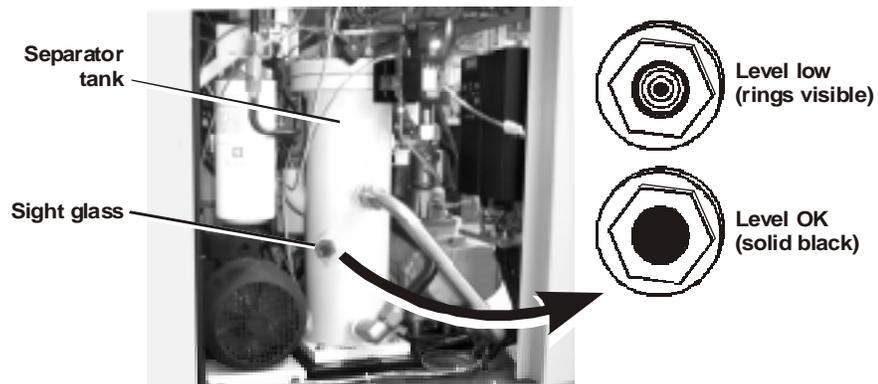

Figure 42. Separator tank sight glass
- 2 Observe the separator tank sight glass (Figure 42) and record the coolant level in the maintenance log. (See “Keeping a Maintenance Log” on page 79.)